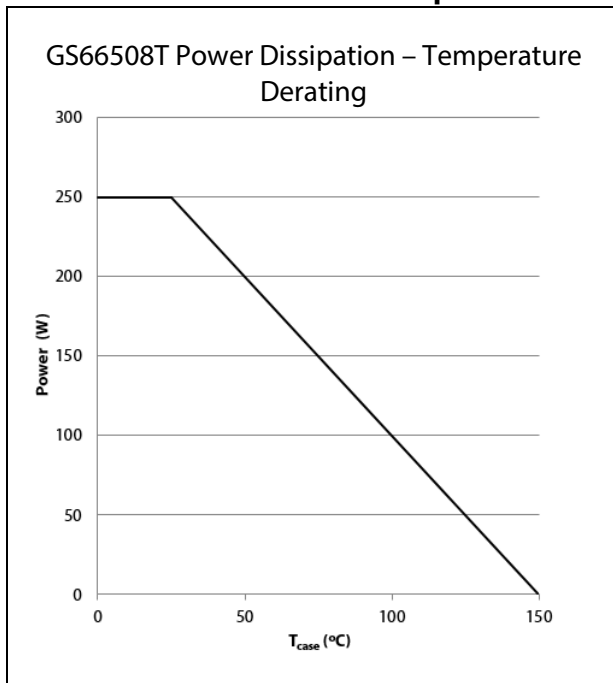

Figure 13: Derating vs. Case Temperature
(8) See Figure 13 for switching test circuit